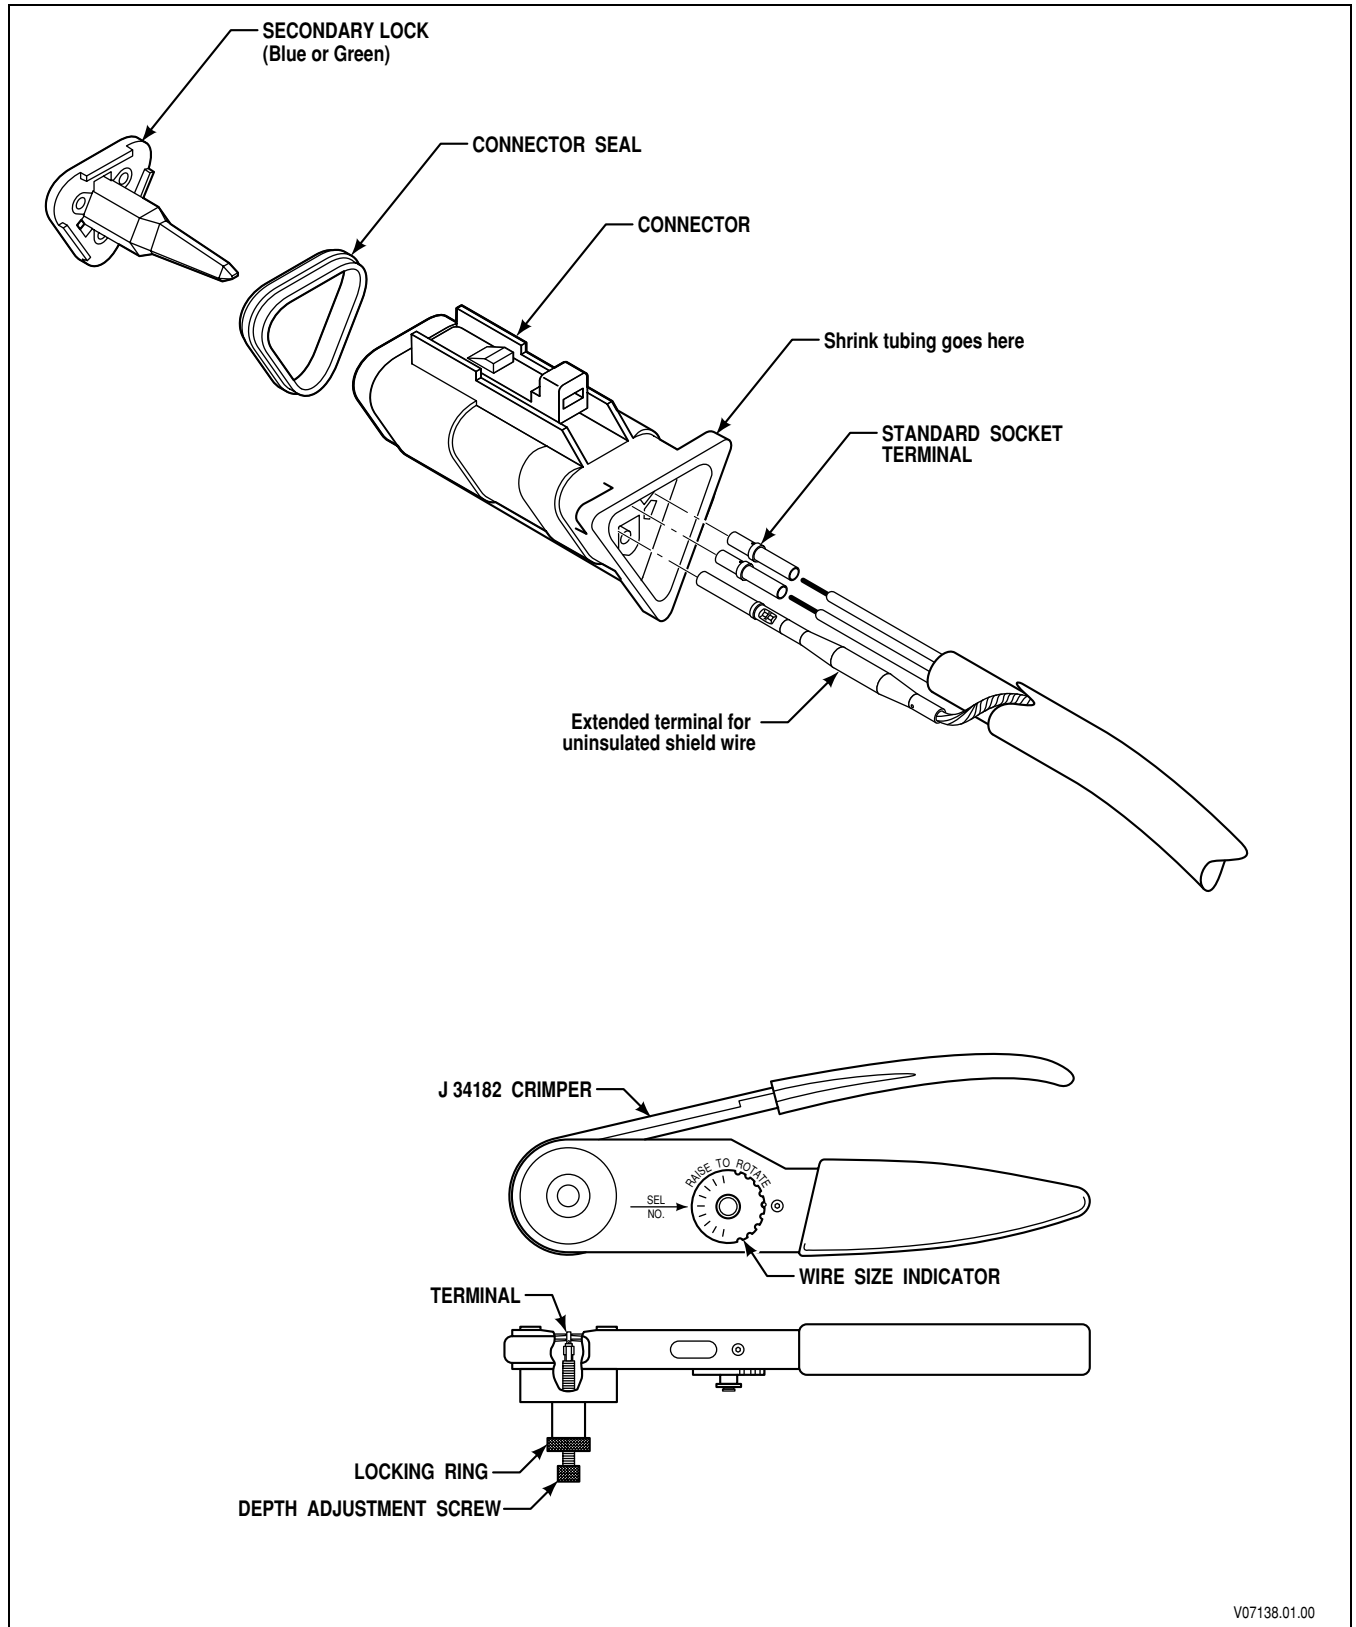

Figure E-15. Deutsch DT Series Connector (3-Way J1939 Interface)
B. Terminal Removal (Figure E-15)
C. Terminal Crimping (Figure E-15)